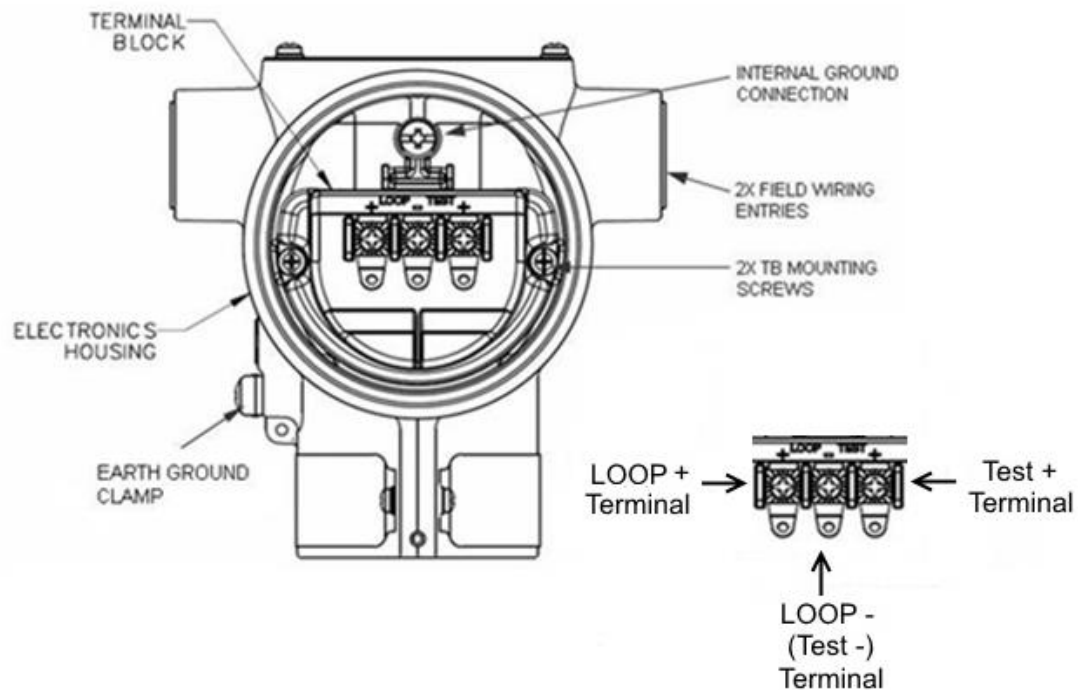

Figure 3-45: HART 3-Screw Terminal Board and Grounding Screw
<p>Loop wiring is connected to the Transmitter by simply attaching the positive (+) and negative (–) loop wires to the first two terminals on the left, marked with LOOP+ and LOOP– on the transmitter body in the Electronic Housing as shown in Figure 3-45. The third terminal to the right is a TEST terminal and is only used for loop current diagnostics / measurements.</p>
As shown in Figure 3-45, each Transmitter has an internal and external terminal to connect it to earth ground. Grounding the transmitter is recommended for safety, to minimize the possible effects of noise, and affords protection against lightning and static discharge. A lightning-protection terminal block can be configured or ordered and installed in place of a non-lightning terminal block for Transmitters that will be installed in areas that are susceptible to lightning strikes.
2. See Figure 3-45 for parts locations. Loosen the end cap lock using a 1.5mm Allen wrench.
If your Transmitter includes the optional lightning protection, connect a wire from the Earth Ground Clamp (see Figure 3-45) to Earth Ground as short as possible to make the protection effective. Use a size 8AWG or (8.37mm²) bare or green covered wire for this connection.